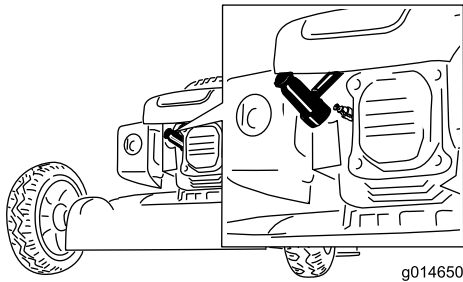

Figure 13
2. Disconnect the spark-plug wire from the spark plug (Figure 13) before performing any maintenance procedure.